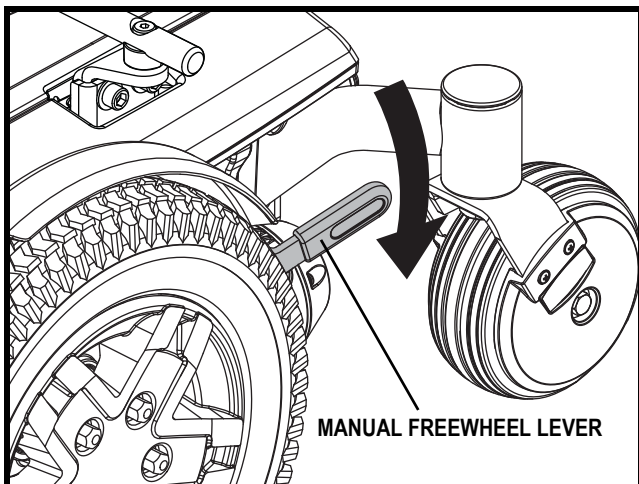

Figure 4A. Freewheel Mode (Left Drive Motor Disengaged)
1. Push down both manual freewheel levers for freewheel mode (drive motor disengaged). See figures 4A and 4B.